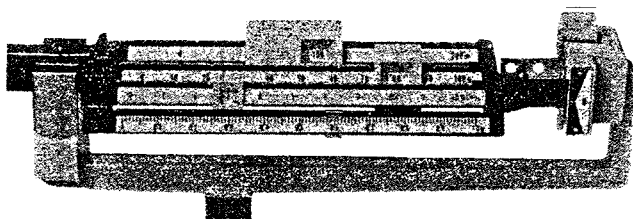

Figure 9. Example of 183.6 Gram Reading
4. Slide the 1 gram poise to the position which brings the pointer to zero. The weight of the specimen is the sum of values of all poise positions, read directly from the graduated beams. See Figure 9.